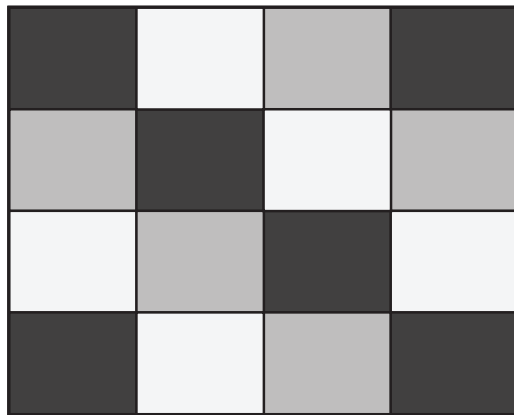

Figure 4-2. Display Test Pattern
6. Press **F3** (CALIBRATE). The Test Tool shows a dark display. The test pattern shown in Figure 4-2 may be not visible or hardly visible. Observe the display closely, and verify that the display shows no abnormalities, such as very light pixels or lines.
The Test Tool shows the display test pattern at default contrast, see Figure 4-2.
The Test Tool shows a light display. The test pattern shown in Figure 4-2 may not be visible or hardly visible.